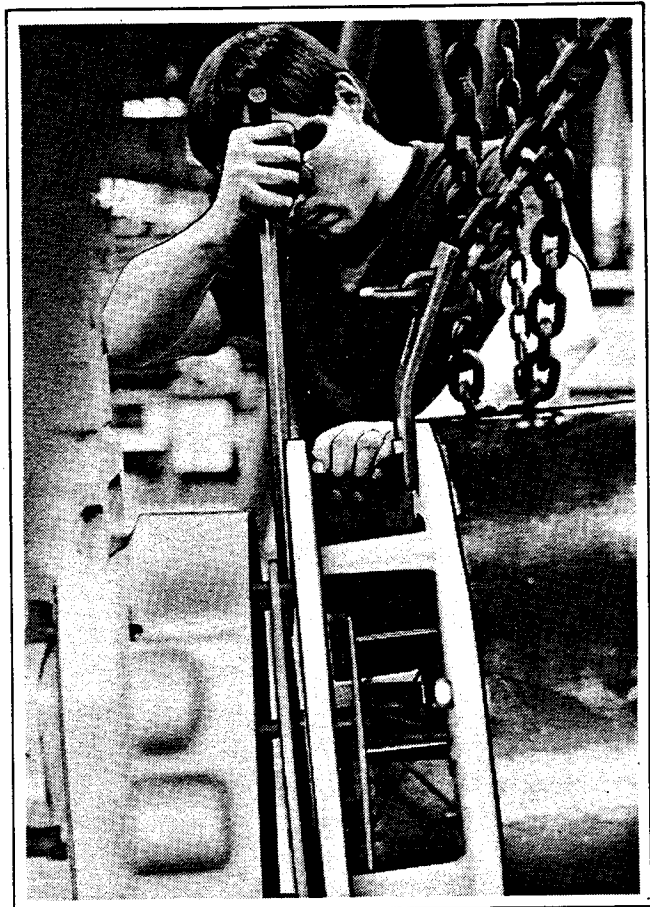

Figure 5-17. Coupling Drive Discs to Flywheel
11. Move generator as necessary to work drive discs and fan over guide pins or studs. See Figure 5-17. Fasten drive discs and fan to flywheel with two bolts or nuts at opposite holes or studs.